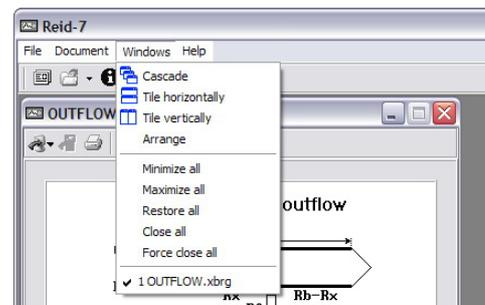

Fig. 4.3 Menu "Windows"
Menu "Windows" (Fig. 4.3) includes subitems:
- The list of all open documents (in a Fig. 4.3 document OUTFLOW.xbrg is opened).